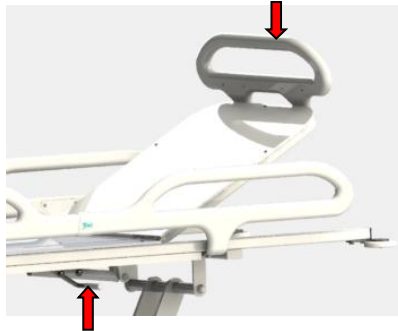

Figure 29
- 2) Pull the handle at the side of the mattress platform upwards, without forcing (fig. 29).